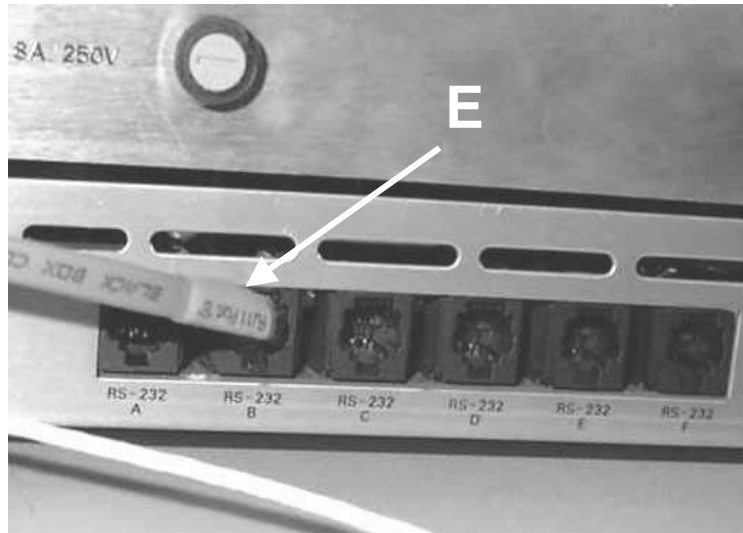

Figure 2
4. Plug the 8120-6713 RJ-11 Cable (E) into the RS-232 port B of the System Card as shown in Figure 2.